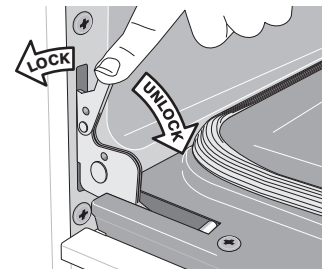

Figure 50: Door hinge locks
2. Pull the door hinge locks on both left and right door hinges down from the oven frame completely towards the oven door (See Figure 50). A tool such as a small flat-blade screwdriver may be required.
4. Push the door hinge locks up towards and into the oven frame on both left and right oven door hinges to the locked position (See Figure 50).